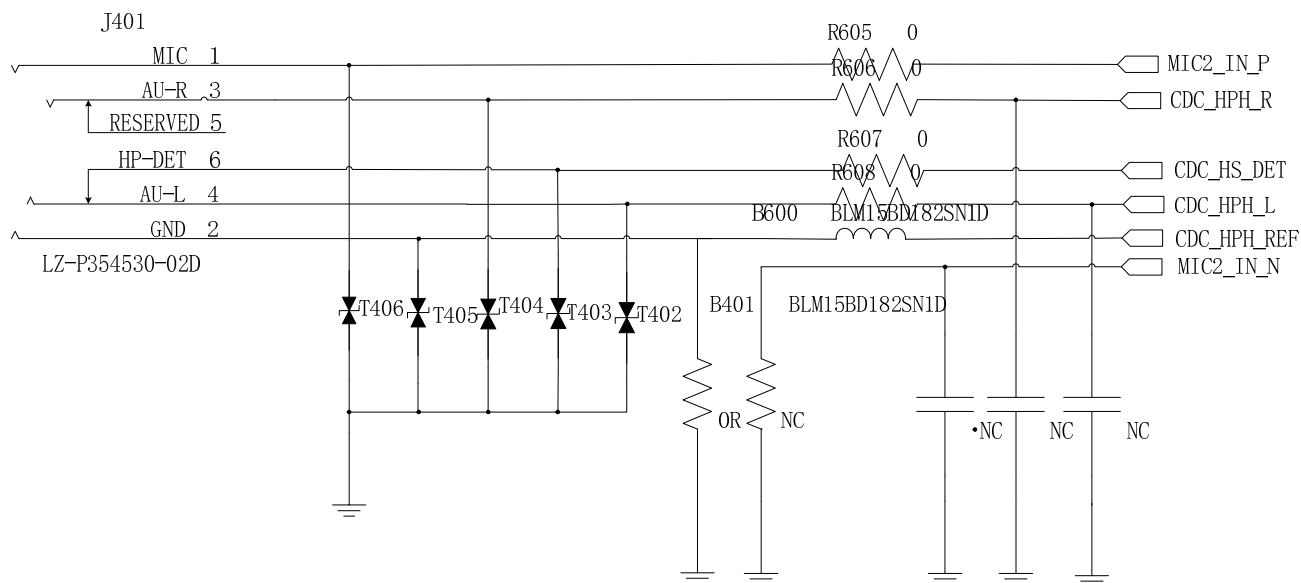

Figure 4.21: Headphone jack circuit
1. The earphone holder in Figure 4.21 is normally closed. If the user uses the earphone holder in normally open mode, please modify the detection circuit according to the actual pin and modify the software accordingly.